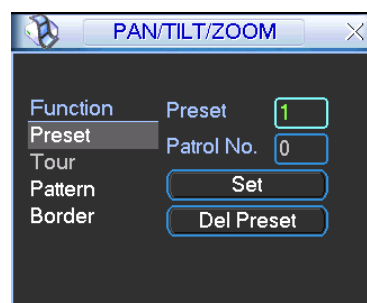
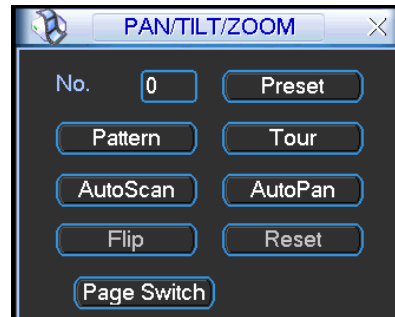
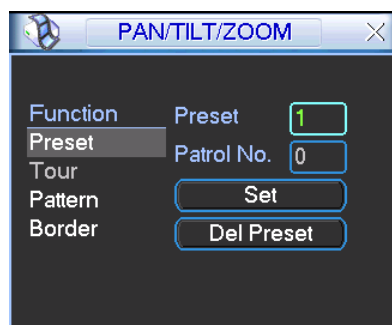

Figure 4-36
Figure 4-37
Figure 4-38
In Figure 4-33, please click the “set” button. The interface is shown as below. See Figure 4-36. Here you can set the following items:
In Figure 4-33, click page switch button, the interface is shown as in Figure 4-37.
- The following setups are usually operated in the Figure 4-33, Figure 4-36 and Figure 4-37.
In Figure 4-36, click preset button and input preset number. The interface is shown as in Figure 4-38
In Figure 4-37, please input preset number in the No. blank, and click preset button.
In Figure 4-36, please click patrol button. The interface is shown as in Figure 4-39. Input preset number and add this preset to a patrol (tour). For each patrol (tour), you can input max 80 presets.
In Figure 4-38 click pattern button and then click “begin” button. The interface is shown as in Figure 4-40. Then you can go to Figure 4-33 to modify zoom, focus, and iris.
In Figure 4-37, input mode value in the No. blank, and click pattern button.
In Figure 4-36, click border button. The interface is shown as in Figure 4-41. Please go to Figure 4-33, use direction arrows to select camera left limit
In Figure 4-37, click “Auto Scan” button, the system begins auto scan. Correspondingly, the auto scan button becomes Stop button. Click stop button to terminate scan operation.
In Figure 4-37, click page switch button, you can see an interface is shown as below. See Figure 4-42. Here you can set auxiliary function. The aux value has relation ship with the Aux button of the decoder.